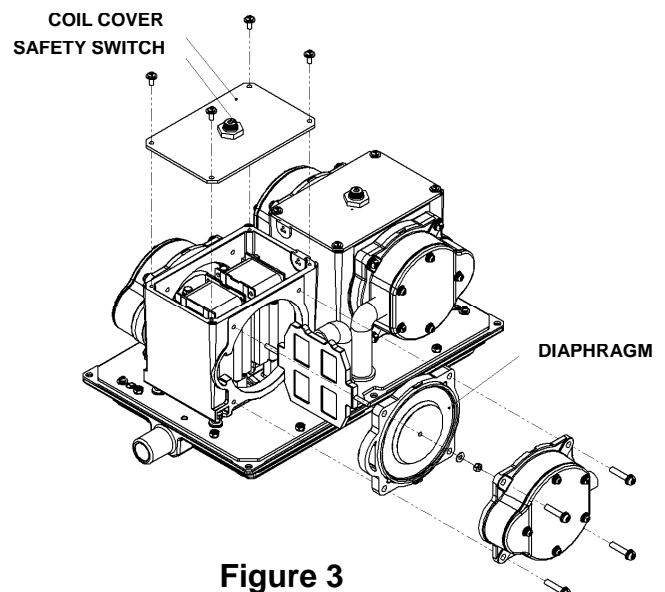

Figure 3
- Loosen the four screws around the coil cover, and take the cover off. (As shown in figure 3)